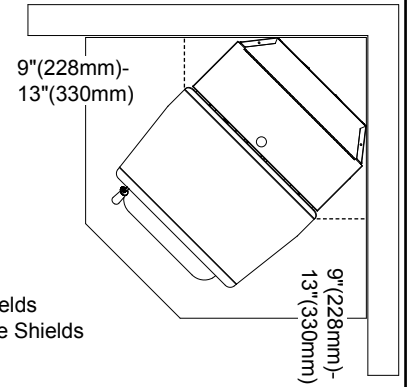

Fig. 3
**In Canada, you may follow smaller U.S. floor protection requirements ONLY if the user agrees to completely shut-down the appliance, and allow it to cool to where all fire is extinguished and the combustion blower and its indicator light shuts off, prior to opening the firebox door or ash door.** Place the stove away from combustible walls at least as far as shown in Figures 3 and 4. Please note the difference in side wall clearance with and without side shields.